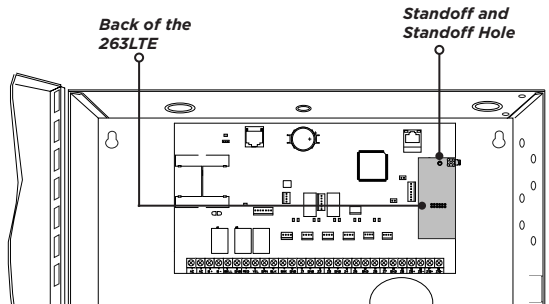

Figure 3: 263LTE on an XR150/XR550 Panel
3. Secure the 263LTE on the 12-pin cell module connector. See Figure 3.